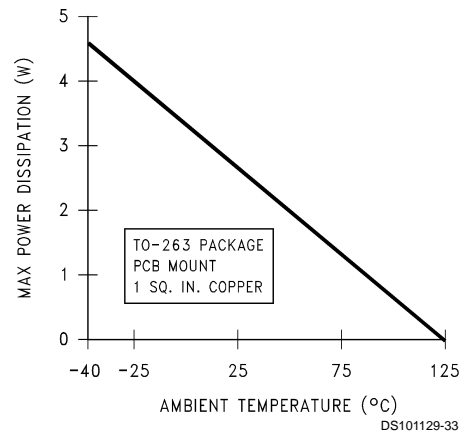

FIGURE 4. Maximum power dissipation vs ambient temperature for TO-263 package
*Figure 4* shows the maximum allowable power dissipation for TO-263 packages for different ambient temperatures, assuming  $\theta_{JA}$  is 35 $^{\circ}\text{C}/\text{W}$  and the maximum junction temperature is 125 $^{\circ}\text{C}$ .